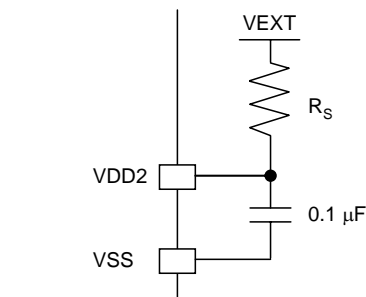

Fig. 1
- When the external supply voltage $V_{EXT} = 4.5\text{ V}$ to 5.5 V , connect a $5.1\text{-k}\Omega$ resistor R_S between V_{EXT} and V_{DD2} as shown in Fig. 1.